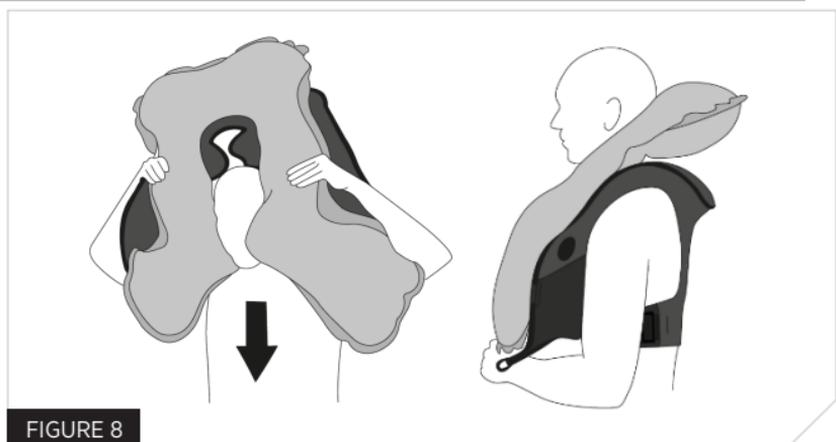

FIGURE 8
5. Hold the upper lobes of the bladder. Pull the lobes apart and put your head through the device (Fig. 8).